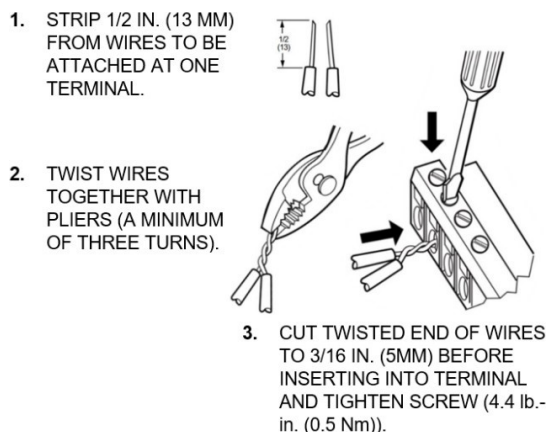

Figure 10. Attaching two or more wires at terminal block
When attaching two or more wires to the same terminal, other than 14 AWG (2.0 mm²), be sure to twist them together. Deviation from this rule can result in improper electrical contact, see Figure 10 below.
- If two or more wires are being inserted into one terminal location, twist the wires together a minimum of three turns before inserting them, see Figure 10 below.